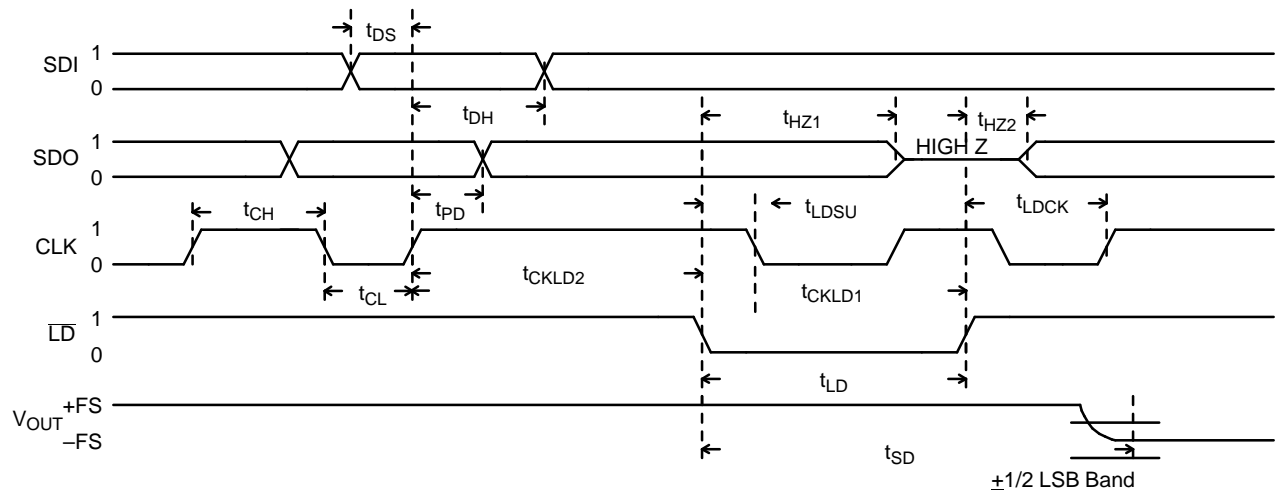

Figure 2. Serial Data Input Timing (RST = "1")
- 4 See Figures 2 and 3. All digital input signals are specified with $t_R = t_F = 10$ ns 10% to 90% and timed from a 50% voltage level.